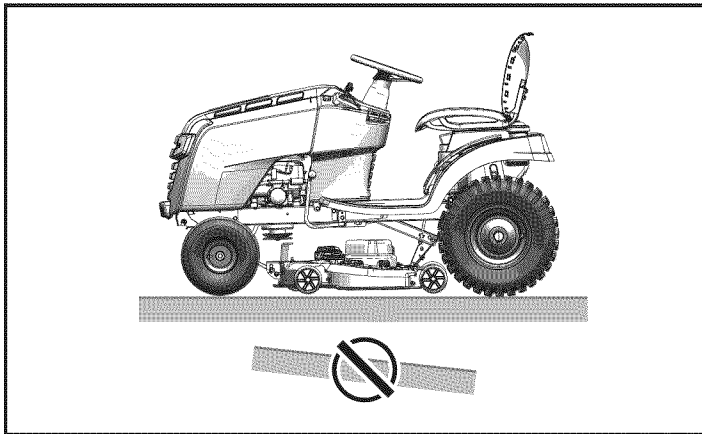

Figure 5
1. Place the tractor on a level surface (see Figure 5).